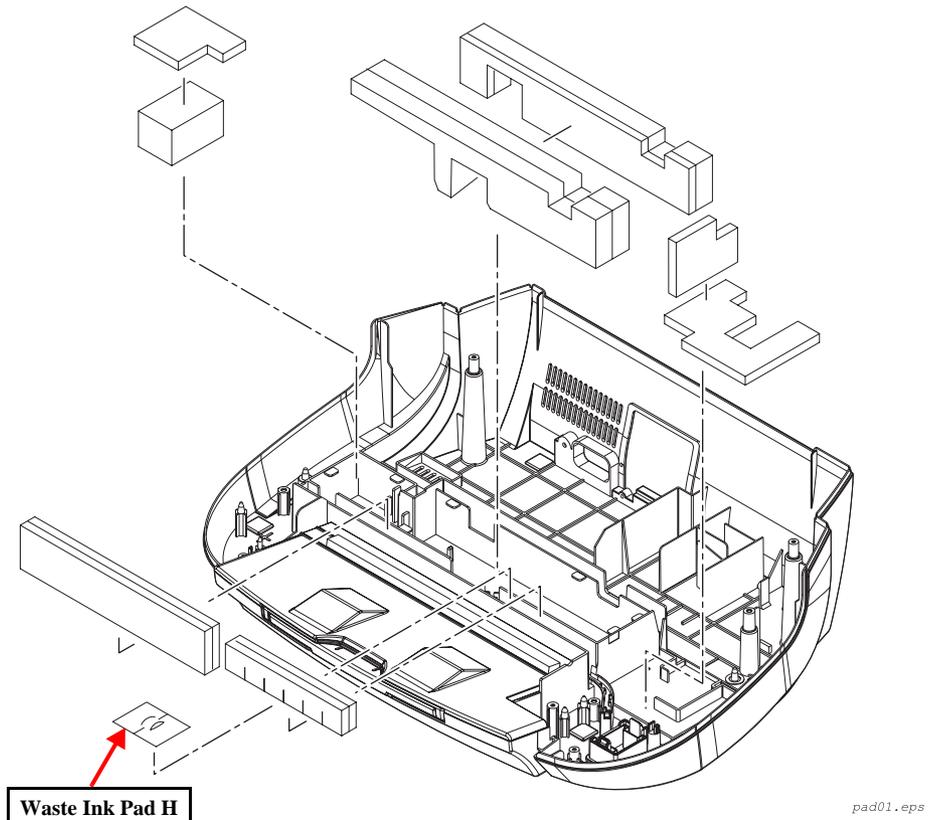

Figure 4-38. Waste Ink Pads Removal
5. Replace Waste Ink Pads. (See Figure 4-38.)